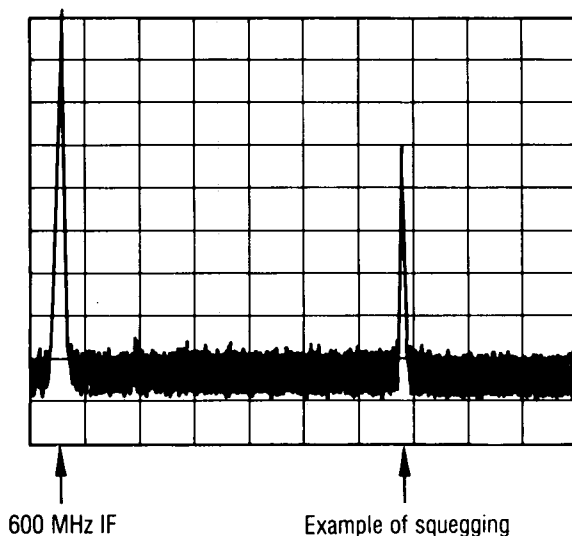

Figure 5-45. Unleveled Squegging Displayed on Spectrum Analyzer
62. Using the [▲] key on both the DUT and the LO, step through band 2, observing the spectrum analyzer display at each step. There may be responses due to mixing products. These will appear as low level signals. A squegging response will appear as a higher amplitude signal as shown in Figure 5-45. If squegging occurs at DUT frequencies below 10 GHz, adjust A22R45 (2A) slightly CCW to eliminate squegging. If squegging occurs at frequencies above 10 GHz, adjust A22R42 (2B) to eliminate the squegging. Note, if the control is adjusted and there is no effect on the response, the response is probably a mixing product.